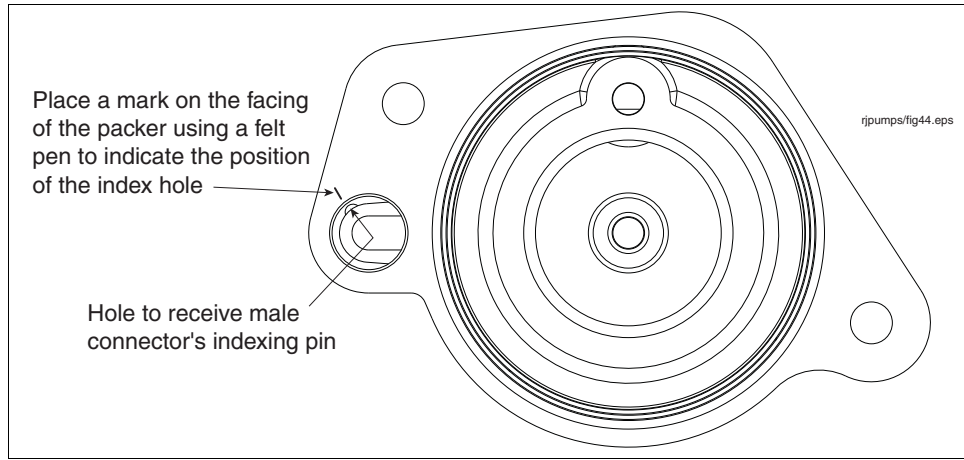

Figure 48. Male Connector Index Hole In Base Of Socket
6. Place a mark on the facing of the Packer using a felt pen to indicate the position of the index hole (see Figure 48).
11. The indexing pin on the back of the connector must seat in the index hole in the base of the male connector's socket (see Figure 48) for the connector to be correctly oriented relative to the female connector.